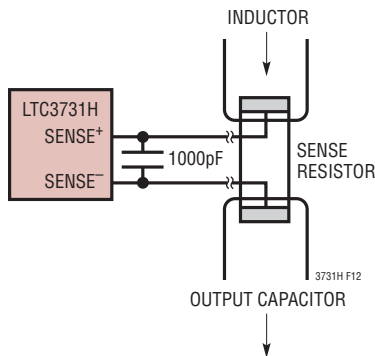

Figure 12. Kelvin Sensing  $R_{SENSE}$
3) Are the  $\text{SENSE}^-$  and  $\text{SENSE}^+$  printed circuit traces for each channel routed together with minimum PC trace spacing? The filter capacitors between  $\text{SENSE}^+$  and  $\text{SENSE}^-$  for each channel should be as close as possible to the pins of the IC. Connect the  $\text{SENSE}^-$  and  $\text{SENSE}^+$  pins to the pads of the sense resistor as illustrated in Figure 12.